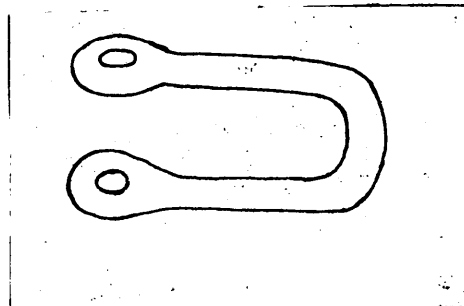

Figure 11.
4. Complete Clevis. (Figure 11).